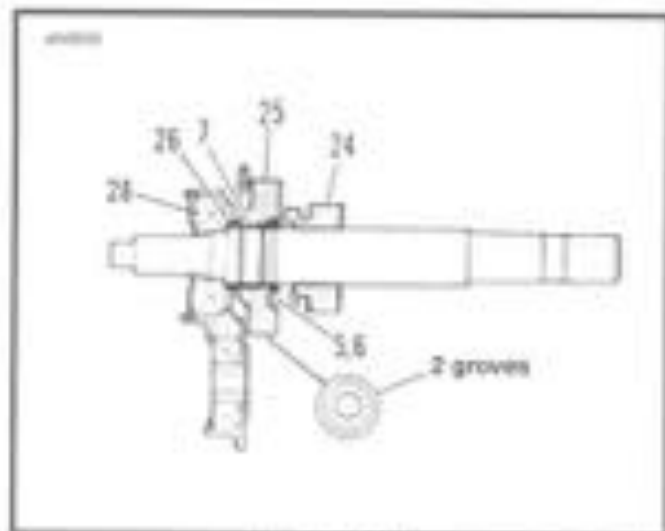

Figure 6-37.
- See Figure 6-37. Place spacer (26) over mainshaft and position next to bearing (20). Position split bearing (7) into machined seat next to spacer (26). Locate mainshaft 4th gear (25), which can be identified by the two radial grooves on one side. Slide gear (25) onto shaft with radial grooves facing bearing. Position gear over bearing next to spacer (26).
- Install thrust washer (6) and retaining ring (5) next to gear (25). It will be necessary to push the retaining ring into final position with a screwdriver.
- Slide mainshaft 1st gear (24) onto mainshaft with the locking dogs facing gear (25).